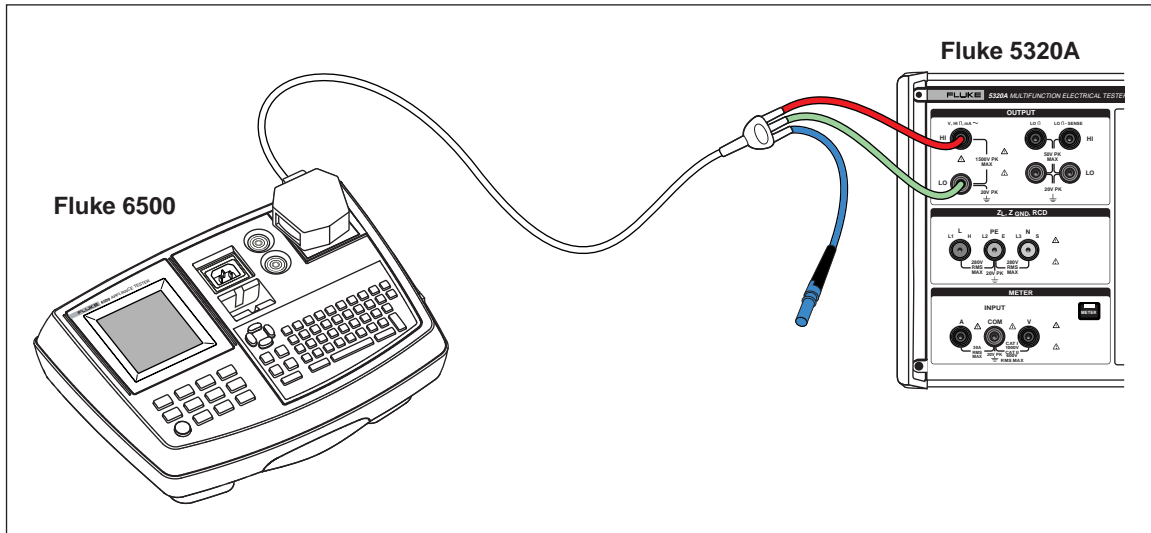

Figure 7-13. Passive Leakage Current Calibration on Fluke 6500
1. Using Figures 7-13, 7-14 or 7-16, connect the UUT to the Calibrator's Output mA~ HI and LO terminals.